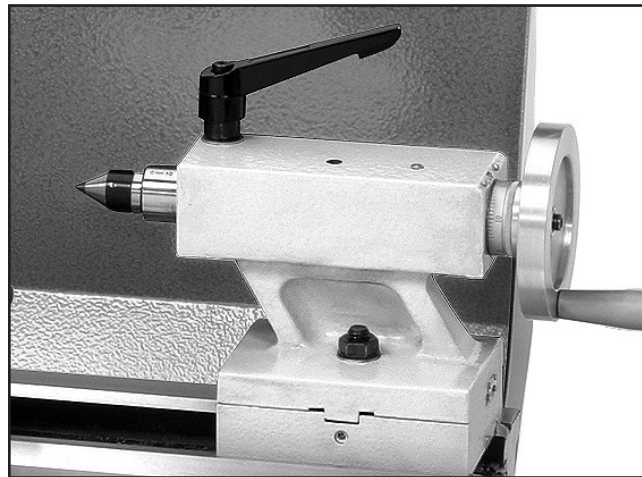

Figure 1. Dead center inserted into tailstock.
3. Use the quill handwheel to feed the quill out of the casting approximately 1" (see **Figure 1**).